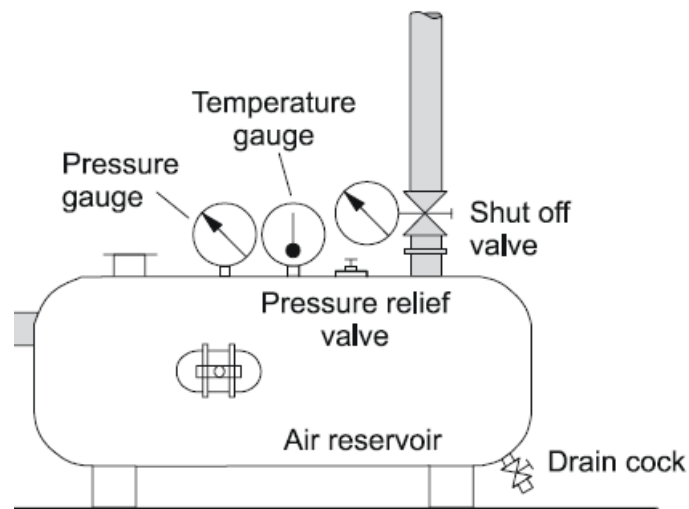

FIG 11.
- This valve will discharge excess air when the system is over pressurized. It must be checked daily. The water in the receiver must be drained daily through the water drain cock. (Fig 11)